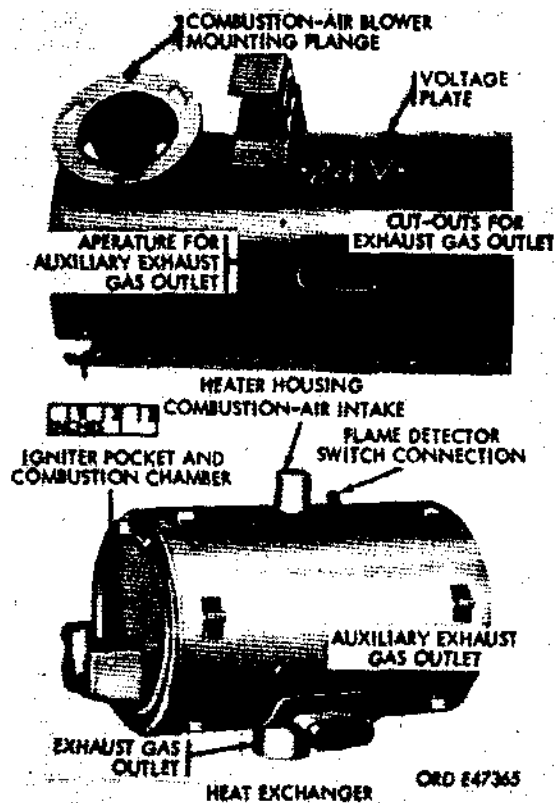

Figure 576. Heater housing and heat exchanger
(3) Heat exchanger (fig. 576).
- (4) Heater housing (fig. 576). The one-piece heater housing fits around the heat exchanger. A formed edge extends the full length of the housing at the center-line of the exhaust tube, to simplify removal and replacement.